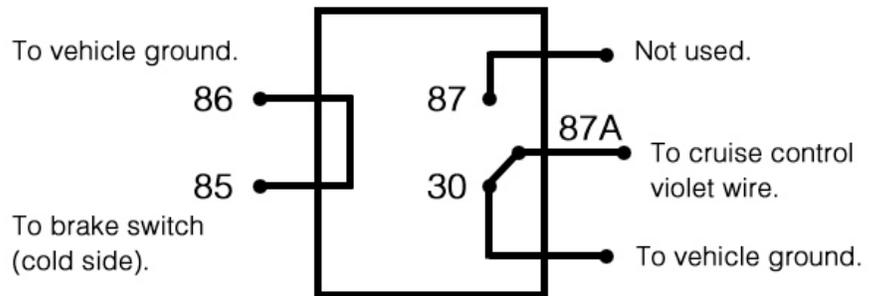

Figure 1
Procedure. Begin by removing the black rubber grommet on the top of the cruise control module (**figure 1**). It should lift up and swivel to reveal the diagnostic LED near the programming switches within the module. Your helper will need to be watching the reaction of this LED to the steps outlined in the guide below.
Step 4: Verify the diagnostic LED inside the cruise control module (**figure 1 above**) is **OFF**. The cruise control unit is now in **Self-Diagnostic Mode**.
b) Verify the position of **Programming Switch #12** within the cruise control module (**figure 1 above**). It should be set to **ON** for a **Normally Closed Circuit Switch**, and **OFF** for a **Normally Open Circuit Switch**. If the programming switch is set incorrectly, reposition it and re-enter **Self-Diagnostic Mode**.